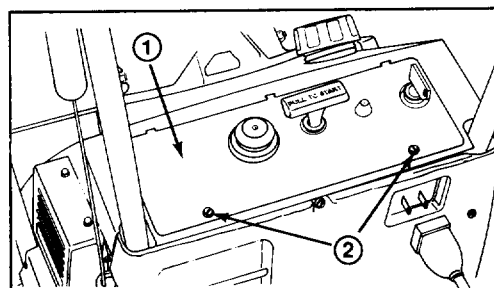

Figure 15
(Figs. 15, 16 & 17)
(Fig. 15)—Remove (2) screws securing control panel to housing. Remove ignition key and lift off panel, allowing it to hang on recoil rope.